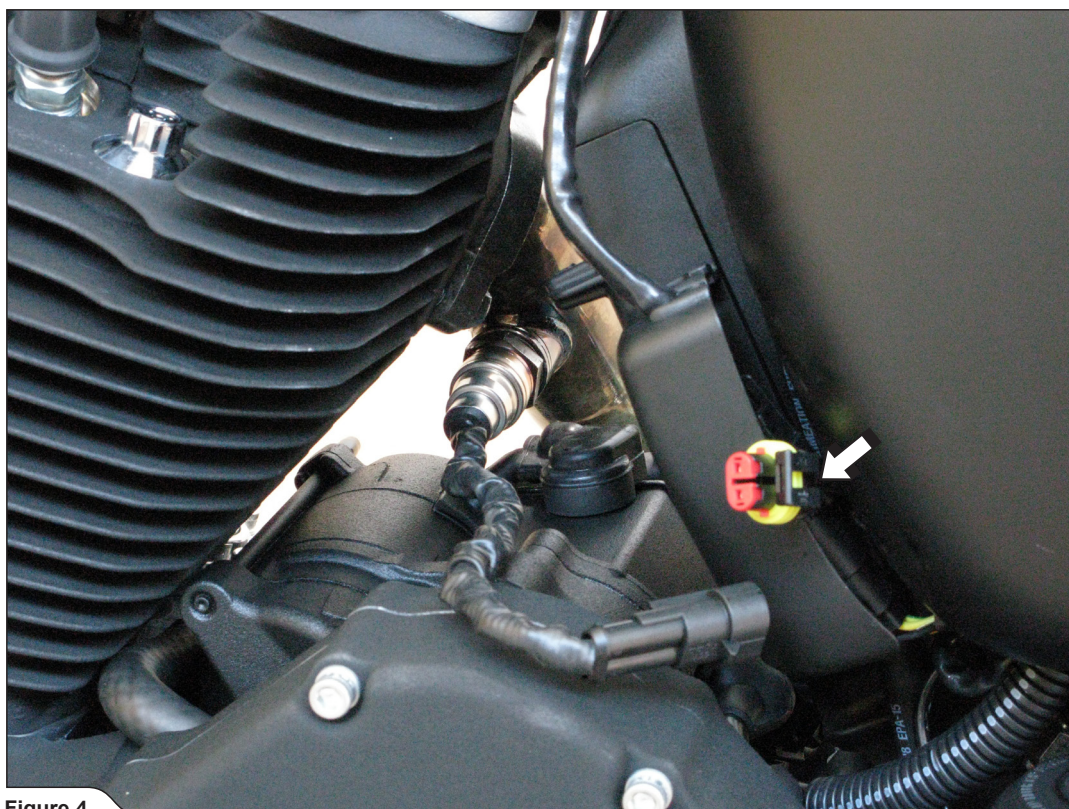

Figure 4
5. Disconnect the lambda sensors' electrical connectors at front and rear headers (Figure 4).